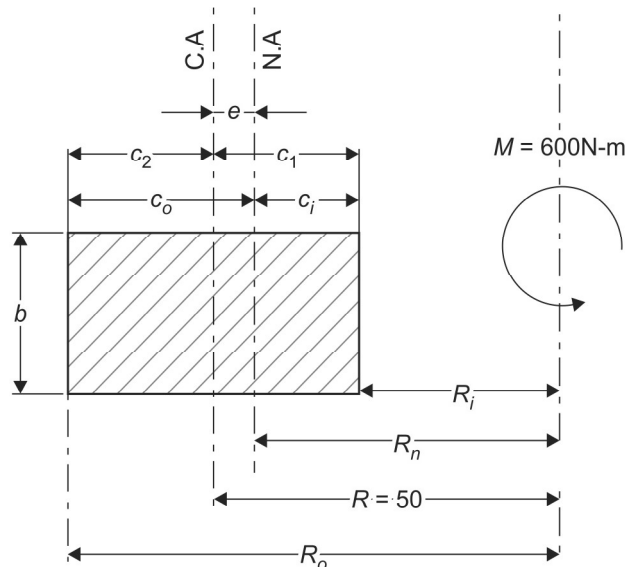

Fig. 1.9: Problem 5
Based on given data, the cross-section is as shown in Fig. 1.9.
- From **Fig. 1.9**, we have